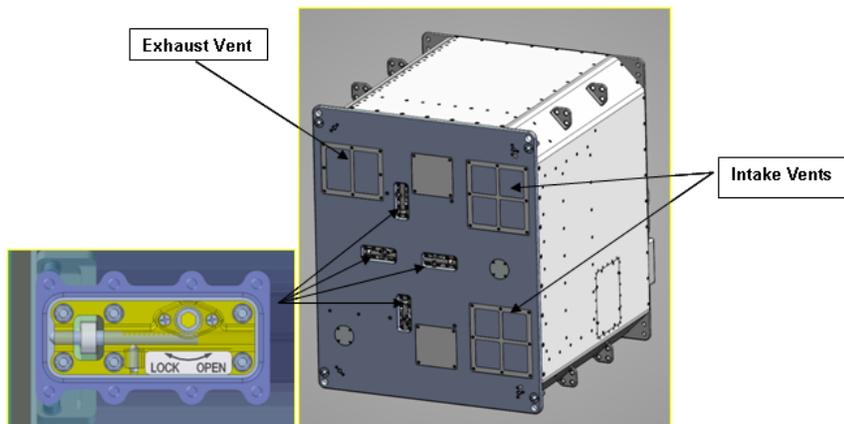

Figure 3. Cryocooler Launch Locks and Vents on Rear of Glacier.
5. Push in and rotate counterclockwise cryocooler launch locks (four) at rear of Ascent Glacier until locking pin is disengaged (OPEN) (3/16" Hex Head, 1/4" Drive; Driver Handle, 1/4" Drive). Refer to Figure 3.